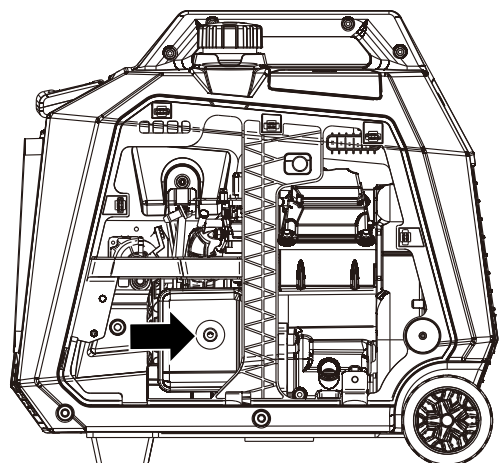

Figure 11: Unscrew air cleaner cover
3. Unscrew the air cleaner cover and tip the cover down (see Figure 11).